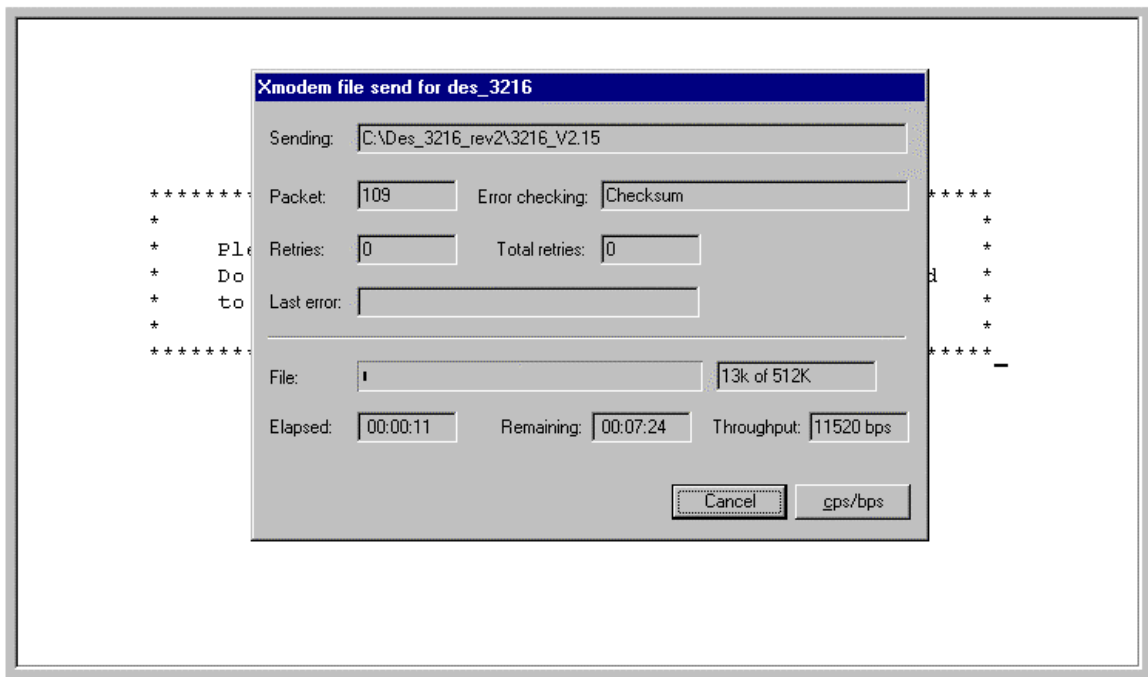

Figure 17: File Transfer through Xmodem
6. The panel, displayed in Figure 17, will display statistics about the transfer, including the elapsed time and the time remaining.